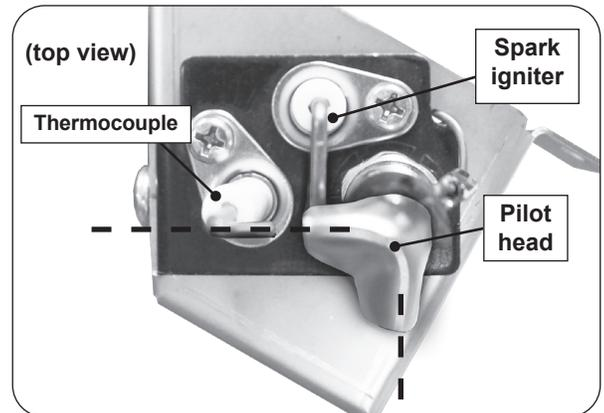

Fig. 3-3 Ensure pilot head properly aligned
6. Ensure the pilot head is properly aligned (see Fig. 3-3).